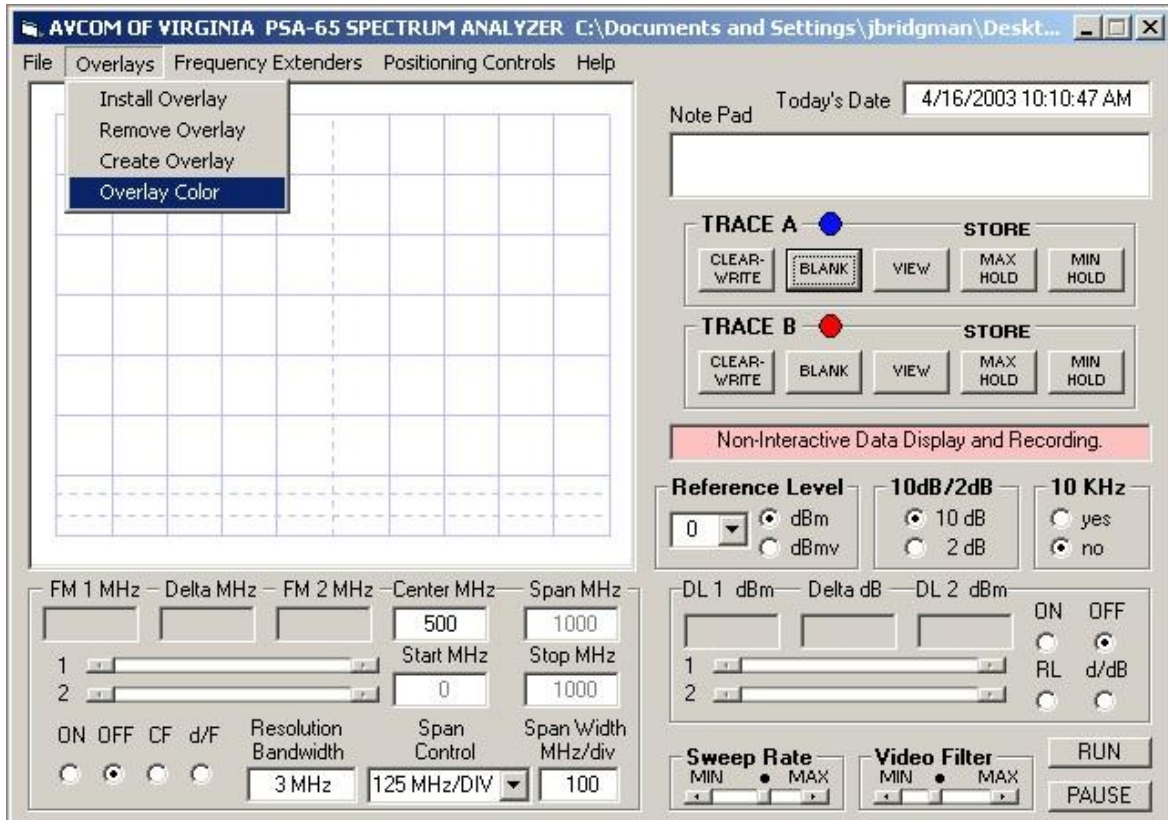

Figure 10-1
4. To create an overlay, click on OVERLAYS (figure 10-1), then CREATE OVERLAY. A "Save As" screen appears and you need to type in a file name. The trace that is in the active screen will be saved so you may pull it up later for reference.